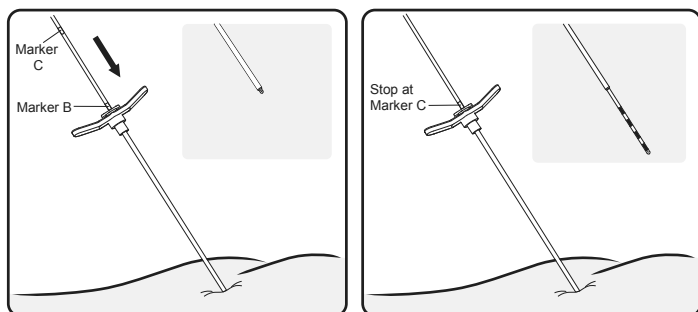

Figure 14. Advance the lead into the introducer sheath to expose the electrodes.
9. Advance the lead further through the introducer sheath until visual marker C is aligned with the introducer sheath handle while holding the introducer sheath in place. Use fluoroscopy to confirm that the distal tip of the sheath is proximal to the electrodes (**Figure 14**).